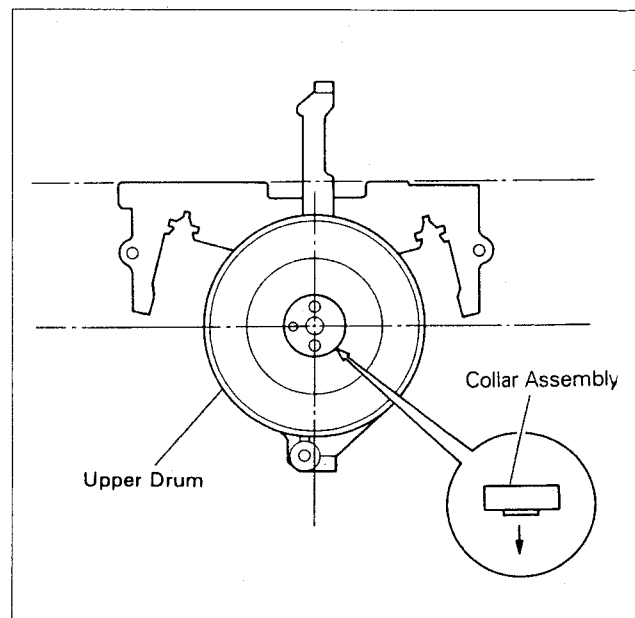

Fig. 2-6-7 Collar assembly-1
- 3) Note the top and bottom of the Collar Assembly and determine the position as indicated in Fig 2-6-7.